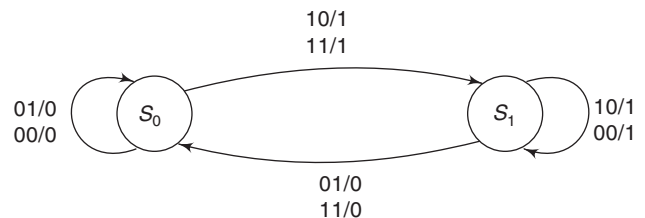

Fig. 14.3 State Transition Diagram of J-K flip-flop.
The J-K flip-flop has two *inputs* (J and K), one *output* (Q), and two states corresponding to $Q = 0$ and $Q = 1$. The states have been named S_0 and S_1 and are represented by two *circles* in Fig. 14.3. The *lines* joining the two circles represent possible transitions between these states. The *labels* on these lines indicate the input conditions for which these transitions will occur and the resultant output. The notation used for the labels is JK/Q . The diagram also shows *lines that leave each state and circle back to terminate on the same state*. The labels on these lines indicate the input conditions for the system to *stay in that state* and the output produced while in that state.